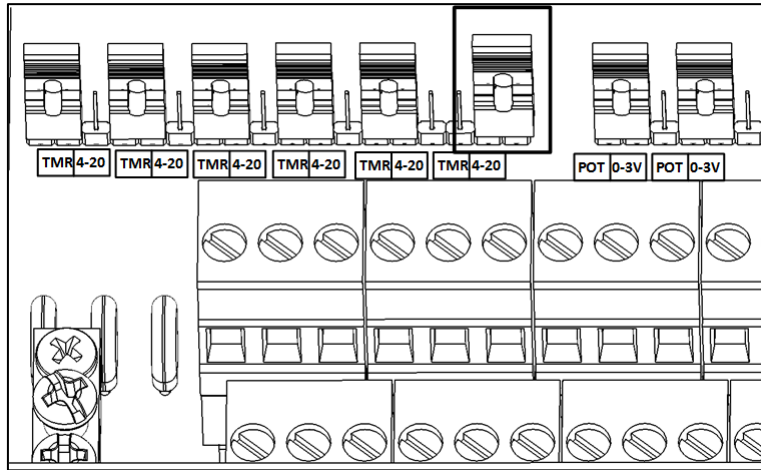

Figure 28: CO2 Sensor Jumpers
2. Place the jumper corresponding to the analog input port on 4 -20 as shown in Figure 28.